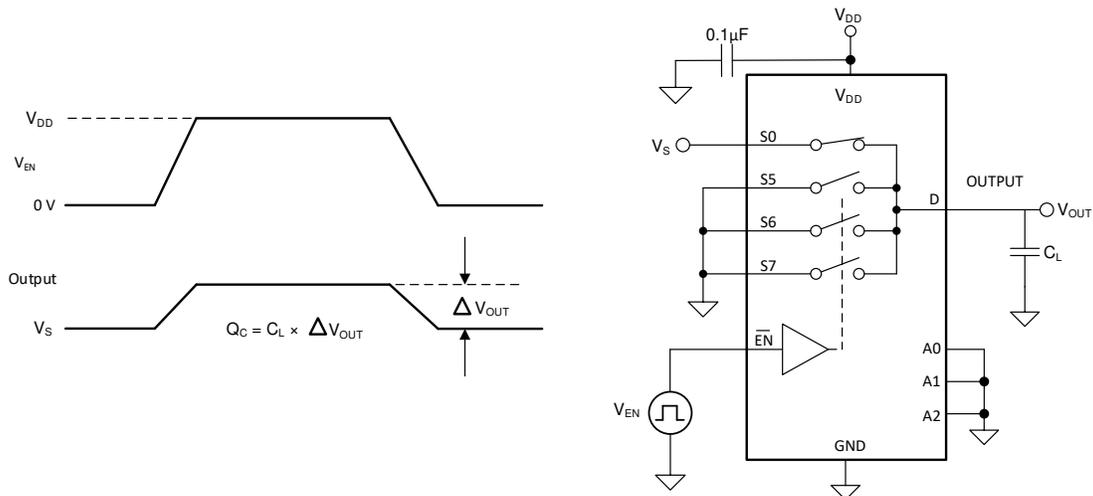

Figure 7-7. Charge-Injection Measurement Setup
The TMUX1308A-Q1 and TMUX1309A-Q1 device have a transmission-gate topology. Any mismatch in capacitance between the NMOS and PMOS transistors results in a charge injected into the drain or source during the falling or rising edge of the gate signal. The amount of charge injected into the source or drain of the device is known as charge injection, and is denoted by the symbol Q_C . Figure 7-7 shows the setup used to measure charge injection from source (S_x) to drain (D).